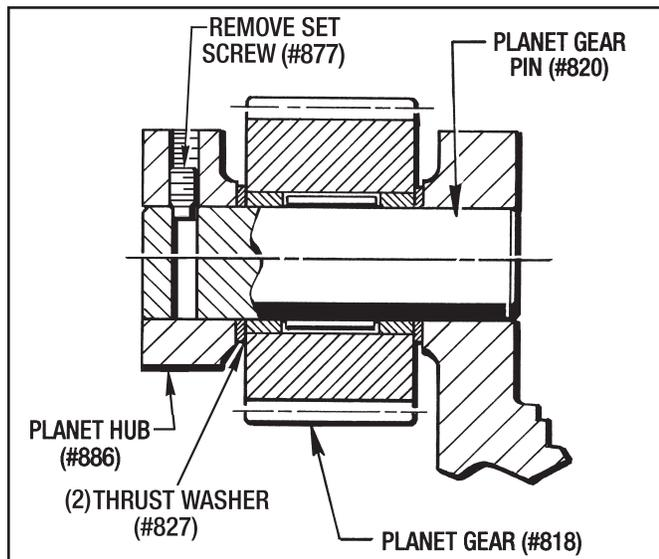

Figure 7.12 - Removing Planet Gear Pin (#820)
1. Remove the Set Screw (#877) as shown in Figure 7.12. This step is necessary so the Planet Gear Pin (#820) can be pushed out of the Planet Hub (#886).